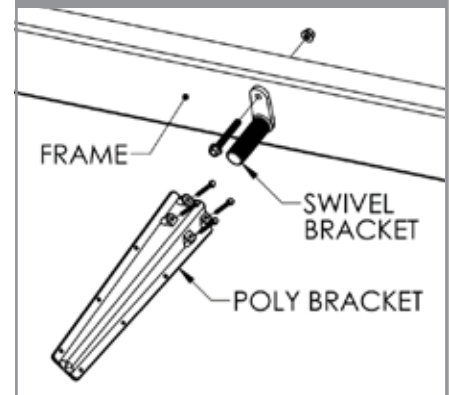

FIGURE 8
- A. Place four 5/16" x 3" bolts through the (10004591) poly bracket and the (10001485) backing block to clamp the (10001472) swivel. (See Figure 8)